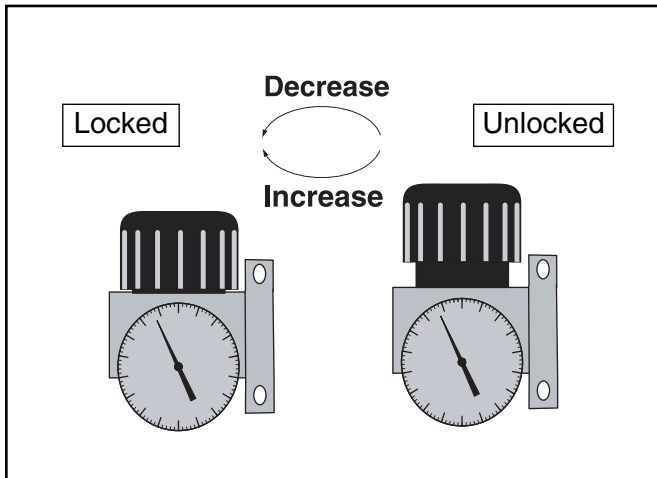

Figure 3. Pressure adjustment.
1. When the air tank has reached operating pressure, pull the regulator knob on the Model H3258 up to unlock it (**Figure 3**).
2. Turn the knob clockwise to increase the pressure and counter-clockwise to decrease the pressure (**Figure 3**). The maximum pressure for this regulator is 150 PSI. DO NOT exceed this maximum setting.
3. Once the desired PSI level is set, press the knob back down into the locked position (**Figure 3**).